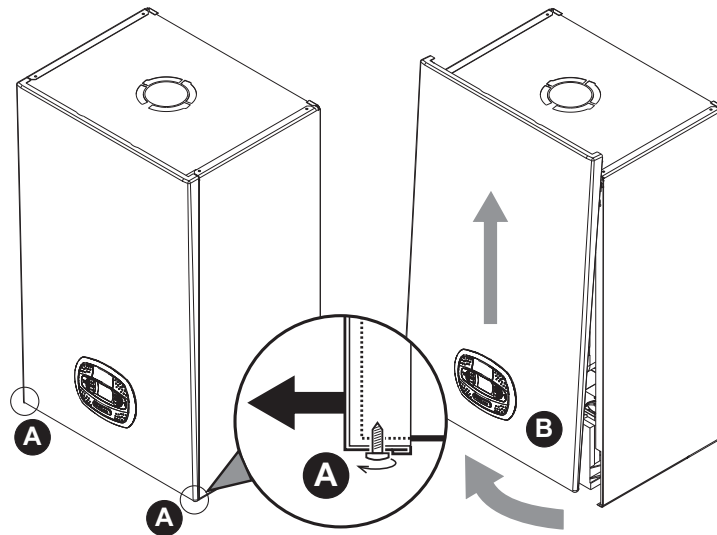

fig. 32- Front panel opening
1. Partially undo the screws **A** (see fig. 32).